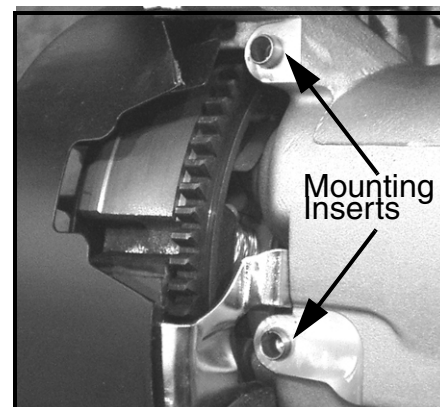

FIGURE 2
8. Position the new starter motor onto the mounting inserts, install the mounting screws and tighten to 53-70 In-Lbs (6-8 Nm). See Figure 2.